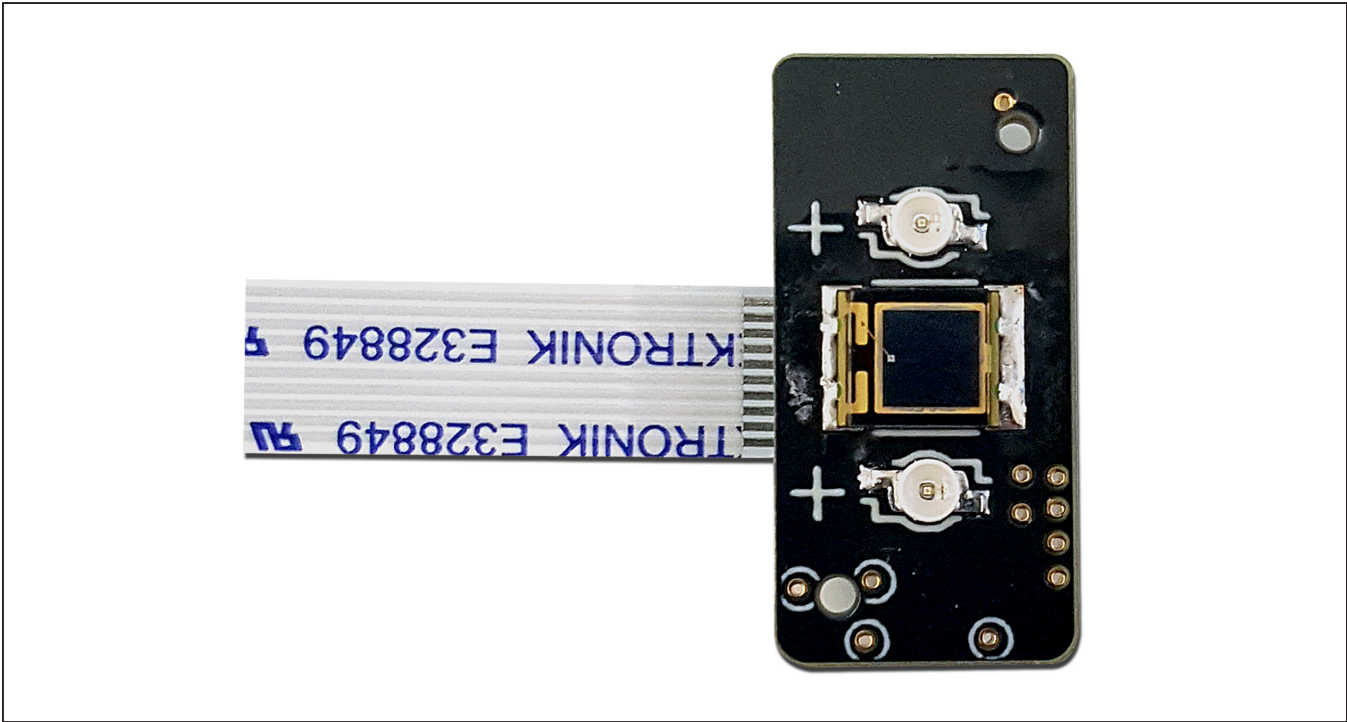
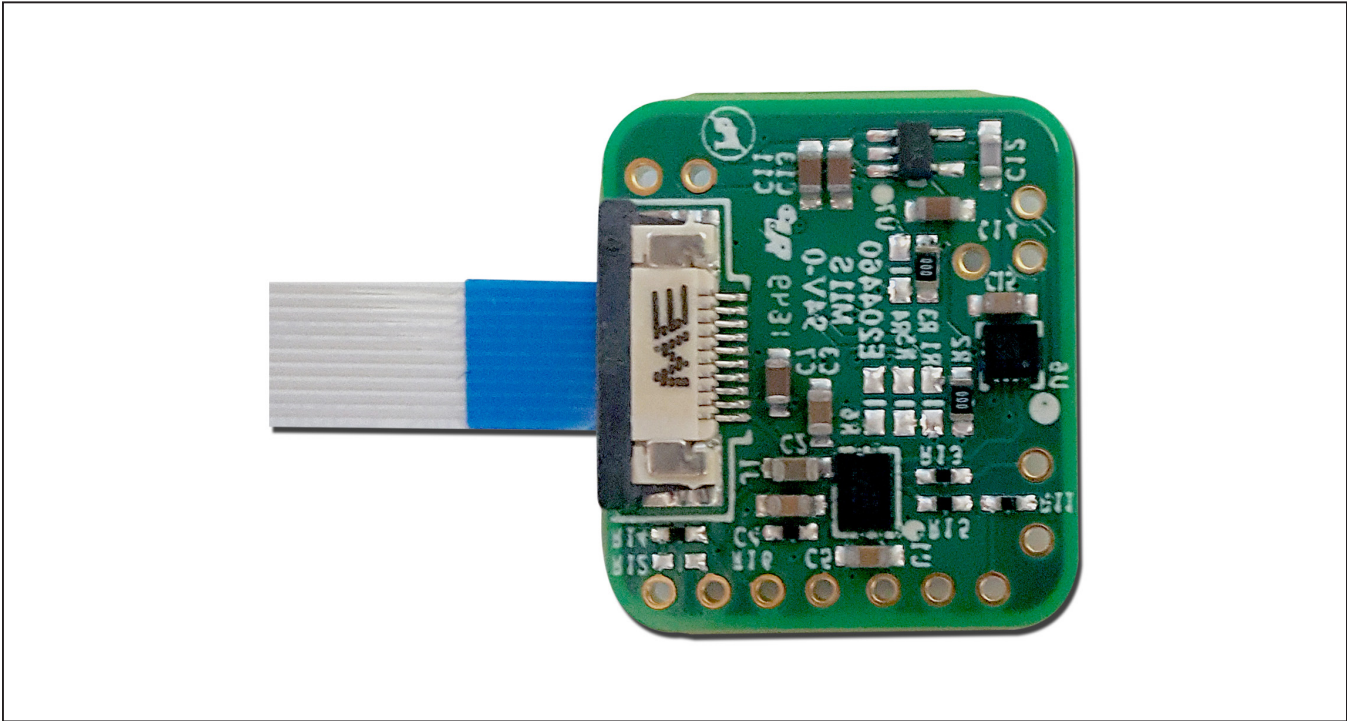
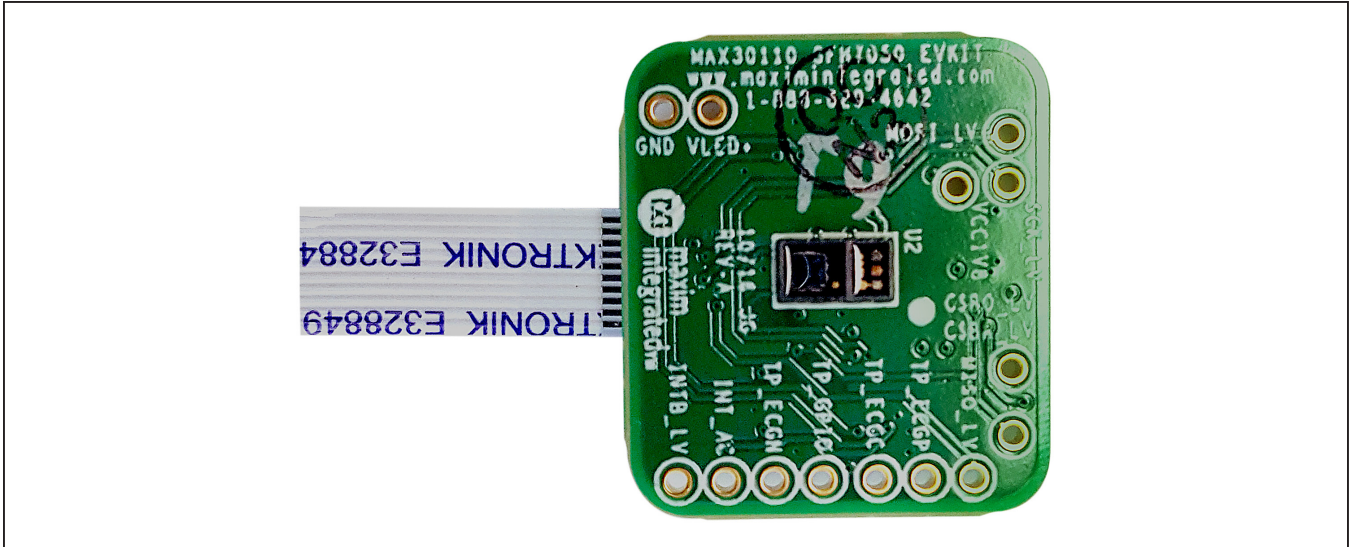

Figure 7. MAX30110 EV Kit—Hardware Setup (Sensor PCB 1 – Top View)
Figure 8. MAX30110 EV Kit—Hardware Setup (Sensor PCB 2 – Bottom View)
Figure 9. MAX30110 EV Kit—Hardware Setup (Sensor PCB 2 – Top View)
- 3) If the MAX30110 EV kit 10-pin flex cable is not already connecting the MAX30110 EV kit micro-PCB to the MAX30110 EV kit sensor PCB 1/2, then connect the two PCBs with the cable as shown in Figure 5, Figure 6, Figure 7, Figure 8, and Figure 9.